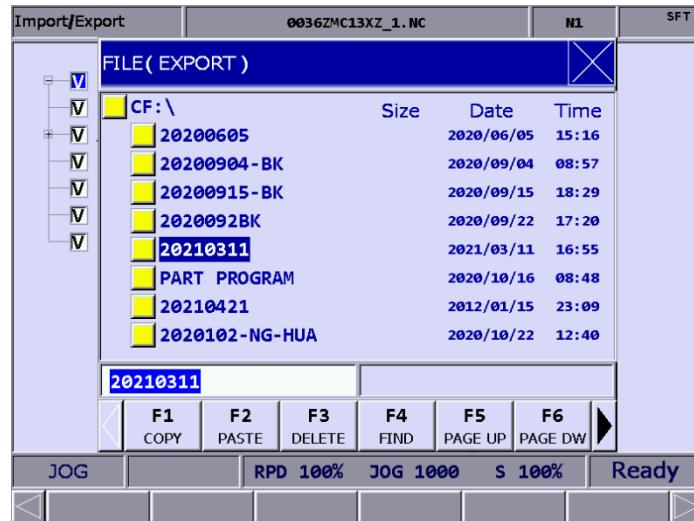

Figure 9.9.2
(5) Press **EXPORT** and the file manager (FILE) window appears as shown in Figure 9.9.2.
(6) Then, the screen displays a progress bar showing the exporting process until the exporting is finished.
(7) If you want to save the exported file to a new created folder, name the folder, then press **FOLDER** to save the exported file in the folder, as shown in Figure 9.9.2.
(8) If you save the exported file to a folder where an exported file already exists, a confirmation window appears. Enter “Y” and press **ENTER** to replace the existing file with the newly exported file.